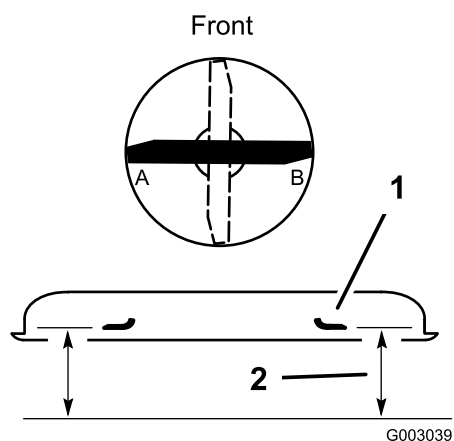

Figure 55
2. Position the blade side-to-side (Figure 55). Measure at **A** and **B** locations (Figure 55) from a level surface to the cutting edge of blade tips (Figure 55).